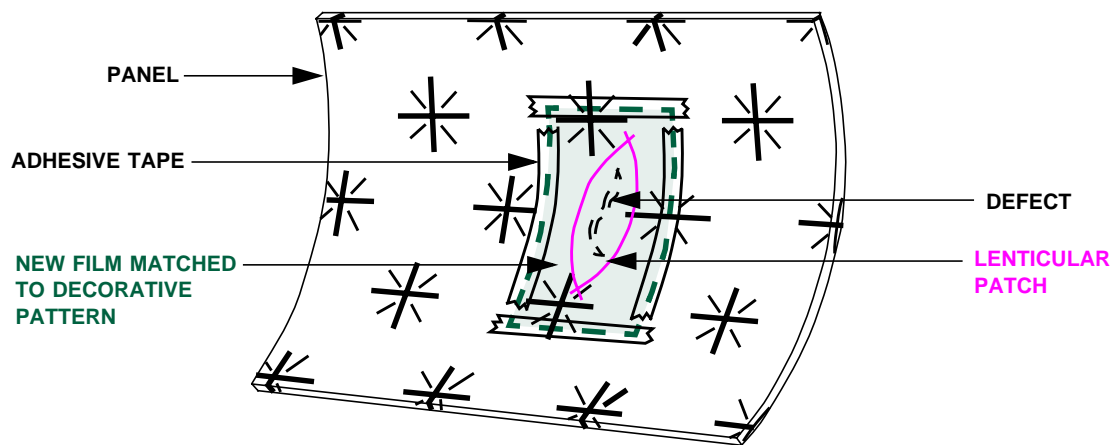

FIGURE 1 - CUTTING OF PATCH
- 5.4.3 Prepare the patch as follows (see Figure 1):